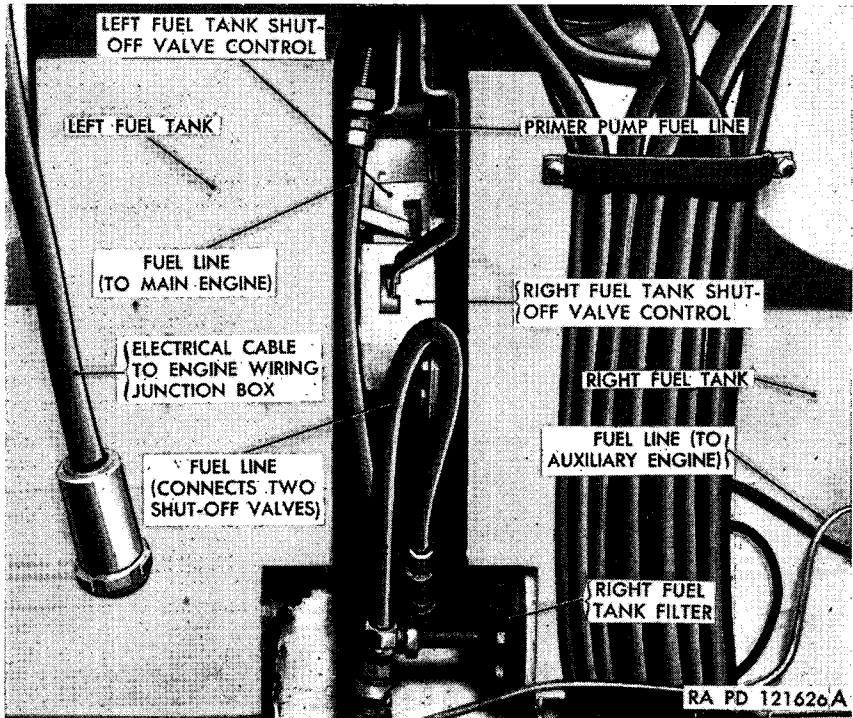

Figure 156. Fuel tank shut-off valves and lines.
a. REMOVAL (fig. 156).
- (1) *Remove power plant.* Remove top deck (par. 158b). Remove power plant (par. 159).
- (2) *Drain fuel tanks.* Refer to paragraph 177b.
- (3) *Remove right-fuel-tank-shut-off valve.* Remove fuel line to main engine. Disconnect fuel line to auxiliary engine. Disconnect and remove fuel line which connects the two fuel-tank-shut-off valves. Remove elbow and tee from right-fuel-tank-shut-off valve. Remove cotter pin and clevis pin which
b. **INSTALLATION** (fig. 156).
- (1) *Install left-fuel-tank-shut-off valve control.* Position control on mounting pads and secure with four bolts and lock washers.
- (2) *Install left-fuel-tank-shut-off valve.* Install left shut-off valve and nipple on left fuel tank filter cover. Install clevis
- (3) *Install right-fuel-tank-shut-off-valve control.* Position control on mounting pads and secure with four bolts and lock washers.
- (4) *Install right-fuel-tank-shut-off valve.* Install right-fuel-tank-shut-off valve and nipple into right fuel tank cover. Install clevis pin and cotter pin which connect right-fuel-tank-shut-off valve control to the valve. Install elbow and tee on right shut-off valve. Install fuel line which connects the right- and left-fuel-tank-shut-off valves. Connect fuel line to auxiliary engine. Install fuel line to main engine.
- (5) *Fill fuel tanks.* Fill both fuel tanks (par. 177a). Check all connections for leaks. Install power plant (par. 160). Install top deck (par. 161a).